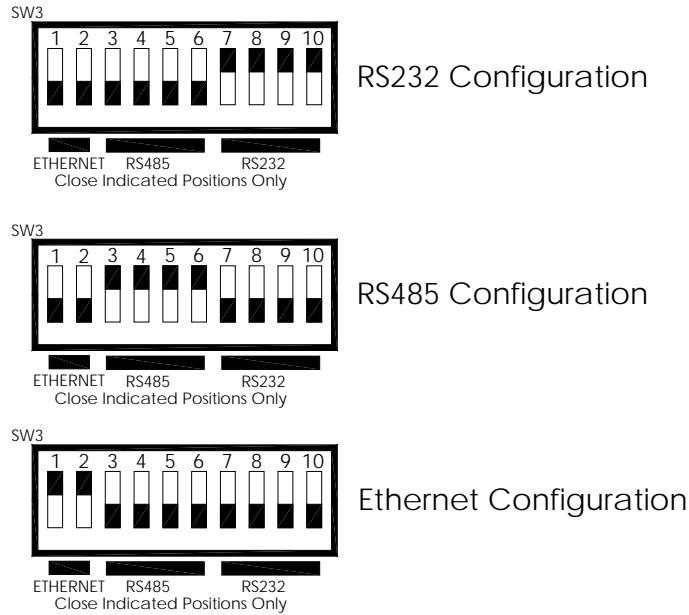

Figure 8-1: Com Configuration Jumper Settings (SW2)
4. Turn ON the switches specified for the desired Com configuration (See Figure 8-1.) All other switches on SW3 should be OFF.